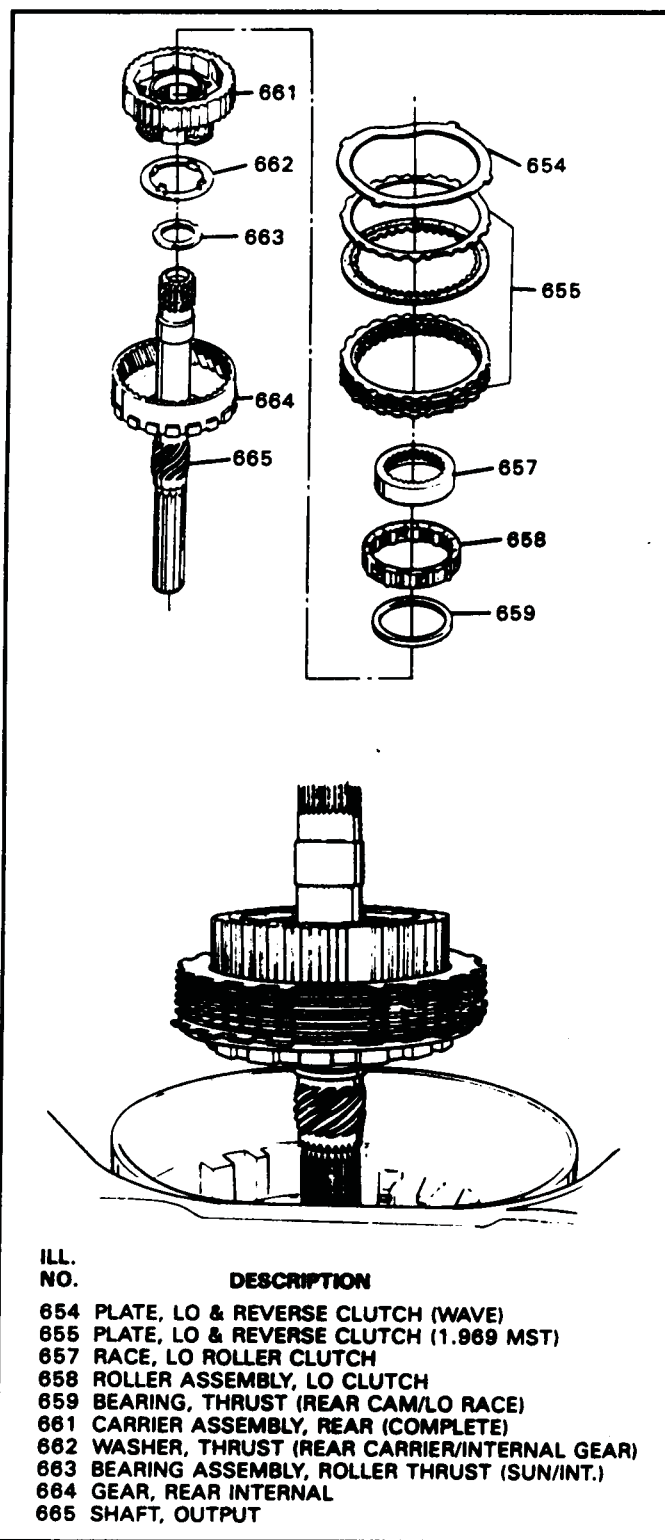

Figure 61
12. Remove the complete rear gear train assembly and Lo/Reverse clutches (See Figure 61).